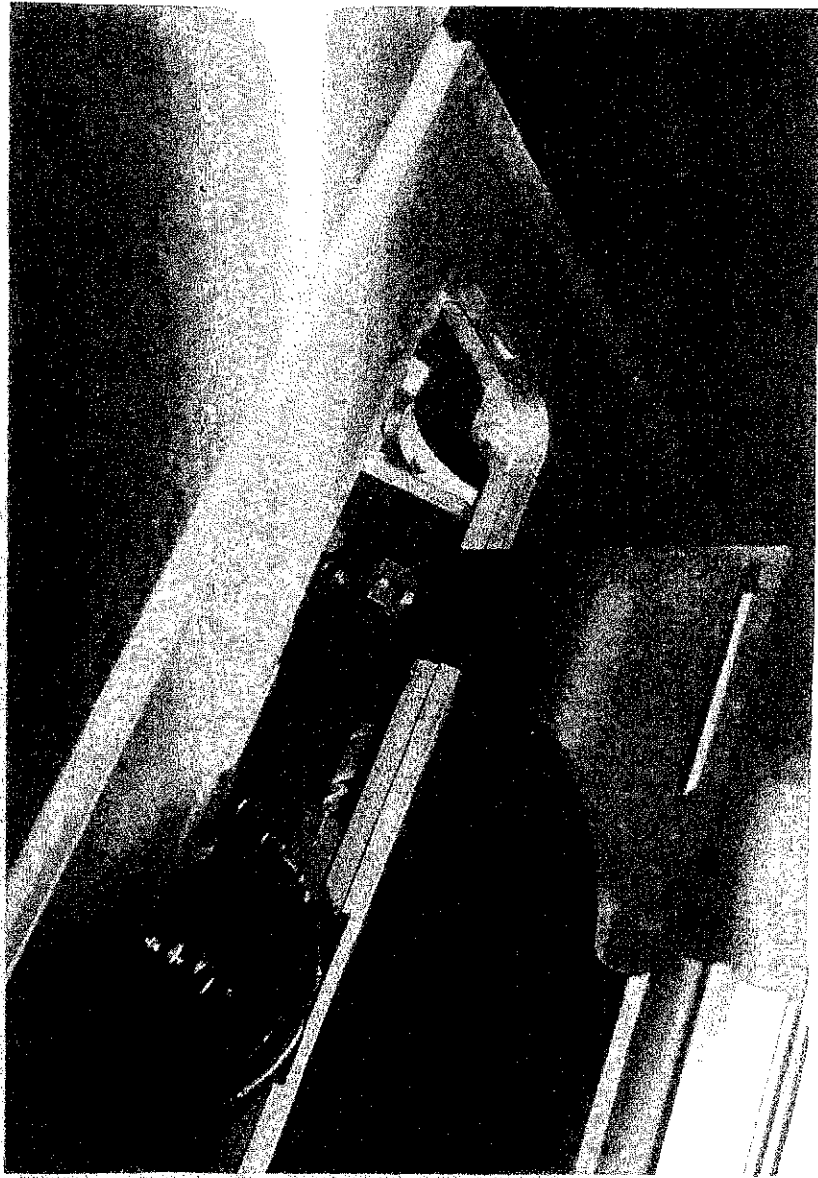

FIG 8
- b) Loosen M16 locking screw and position riving knife between pressure plate and guide plate FIG.8.